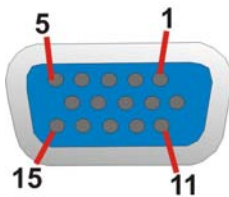

Figure 4-22: VGA Connector
- CN Pinouts:** See Figure 4-22 and Table 4-24